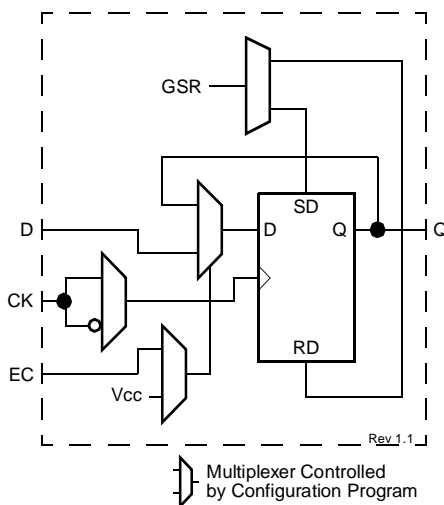
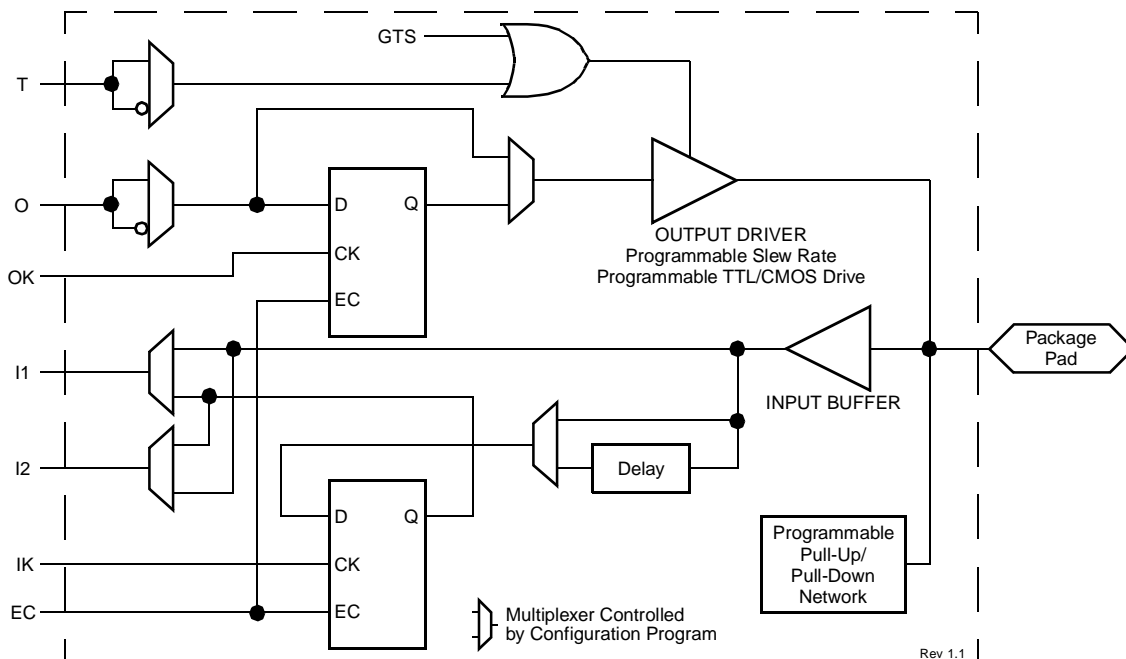

Figure 6: IOB Flip-Flop/Latch Functional Block Diagram
Figure 5: Simplified Spartan/XL IOB Block Diagram
User-configurable input/output blocks (IOBs) provide the interface between external package pins and the internal logic. Each IOB controls one package pin and can be configured for input, output, or bidirectional signals. Figure 5 on page 6 shows a simplified functional block diagram of the Spartan/XL IOB.
The input signal to the IOB can be configured to either go directly to the routing channels (via I1 and I2 in Figure 5) or to the input register. The input register can be programmed as either an edge-triggered flip-flop or a level-sensitive latch. The functionality of this register is shown in Table 3, and a simplified block diagram of the register can be seen in Figure 6.
The register choice is made by placing the appropriate library symbol. For example, IFD is the basic input flip-flop (rising edge triggered), and ILD is the basic input latch (transparent-High). Variations with inverted clocks are also available. The clock signal inverter is also shown in Figure 6 on the CK line.
The output of the input register goes to the routing channels (via I1 and I2 in Figure 5). The I1 and I2 signals that
An active High 3-state signal can be used to place the output buffer in a high-impedance state, implementing 3-state outputs or bidirectional I/O. Under configuration control, the output (O) and output 3-state (T) signals can be inverted. The polarity of these signals is independently configured for each IOB (see Figure 5 on page 6). An output can be configured as open-drain (open-collector) by tying the 3-state pin (T) to the output signal, and the input pin (I) to Ground.
As with the CLB registers, the GSR signal can be used to set or clear the input and output registers, depending on the value of the INIT attribute or property. The two flip-flops can be individually configured to set or clear on reset and after configuration. Other than the global GSR net, no user-controlled set/reset signal is available to the I/O flip-flops (Figure 6). The choice of set or reset applies to both the initial state of the flip-flop and the response to the GSR pulse.
The input and output flip-flops in each IOB have a common clock enable input (see EC signal in Figure 6), which through configuration, can be activated individually for the